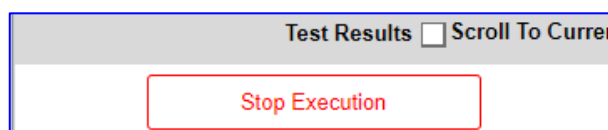

FIGURE 5.4: SELECTING STOP EXECUTION BUTTON FOR FUNCTIONAL COMPLIANCE TEST CASES WITHOUT USB DATA SUPPORT
- To stop the test run while in progress, select the **Stop Execution** button (Figure 5.4 below) at the top of the Results screen.